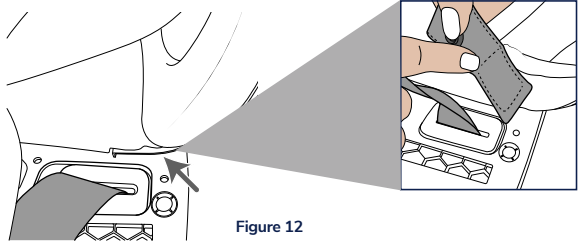

Figure 12
Step 2. Find tab on bottom of headrest cover, align and insert into the slot in hardware (Figure 12).